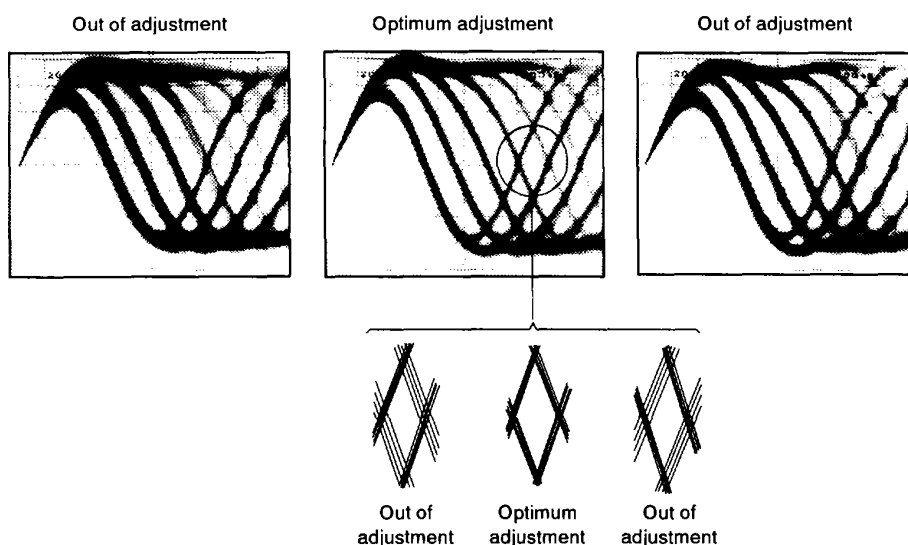

Figure 4 Eye pattern
3. Next, adjust the tangential tilt adjustment screw with a Phillips screwdriver so that the eye pattern (the diamond shape at the center of the RF signal) can be seen the most clearly (Figure 4).